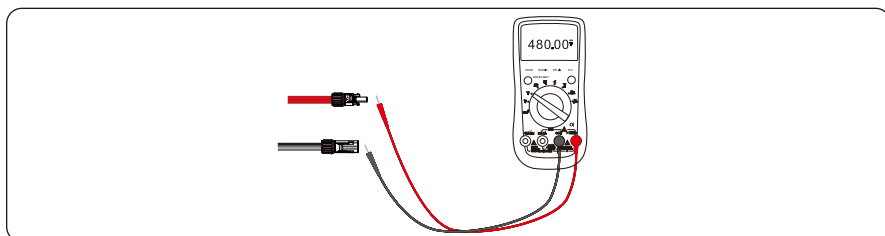

Figure 5.15 Checking the voltage of every route Strings
Step 5 Measure the voltage of every route Strings by using a multimeter. Ensure that the polarities of the DC input power cables are correct, as shown in Figure 5.15.